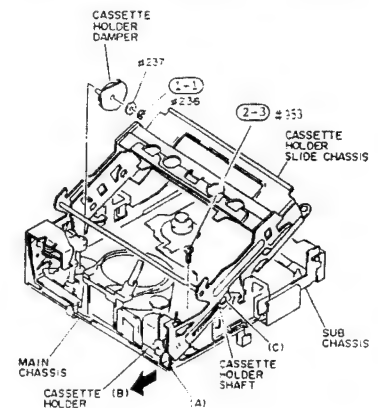
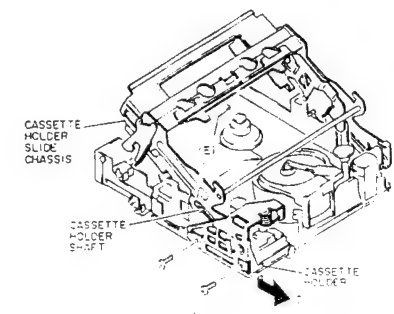

Fig. 2-42
Fig. 2-43
1) Remove one (1) E-ring holding the cassette holder damper. (See Fig. 2-42)
- 1) Remove one (1) screw holding the cassette holder. (See Fig. 2-42)
- 2) Remove two (2) screws holding the cassette holder. (See Fig. 2-43)
- 3) Move engaged section (A) of the holder from the main chassis. (See Fig. 2-42)
- 4) The cassette holder shaft comes to section (C) of the cassette holder slide groove. Push the cassette holder slide chassis in to release the cassette holder shaft from the cassette holder and sub chassis.
- 5) Move the cassette holder in the direction of arrow (D). (See Fig. 2-43)
- 6) The cassette holder shaft comes to section (E) of the cassette holder slide groove. Push the cassette holder slide chassis in to release the cassette holder shaft from the cassette holder and sub chassis.